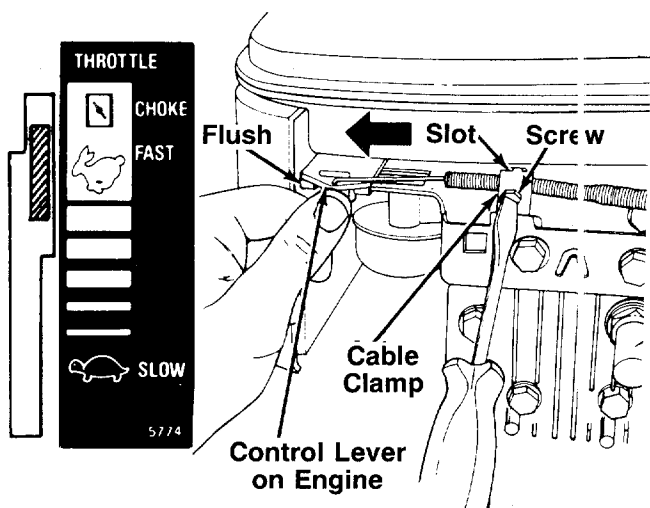

FIGURE 6B.—Model 506R
1. Push the throttle control lever on the handle all the way forward to **CHOKE**, then back it off **two "clicks"** (approximately 5/16"). See figure 6B.
2. The throttle control cable is attached to the upper handle. Route the throttle control cable under the lower handle and inside the handle mounting bracket. Hook the "Z" end of the throttle control cable into the hole in the control lever on the engine. See figure 6B.
3. Using a 5/16" wrench or nutdriver, remove the screw on the cable clamp shown in figure 6B. Slip the control cable under the clamp. Replace the screw (cable should be above the screw), but do not tighten (cable must still move freely beneath the clamp). Make certain the tab on the cable clamp is seated into the slot on the engine.
4. Push the control lever on the engine as far toward the **outside** of the engine as it will go. The edge of the control lever should be flush with the bracket on the engine. See figure 6B. Hold the control lever in this position as you tighten the screw on the cable clamp to secure the throttle cable.